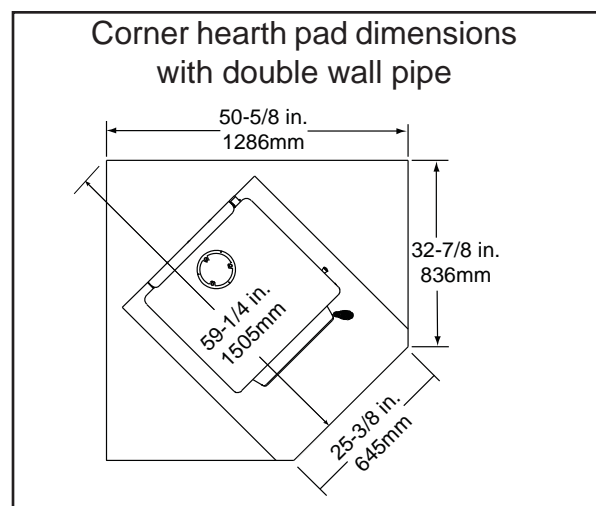

Figure 11.4
***EXCEPTION:** Non-combustible floor protections must extend beneath the flue pipe when installed with horizontal venting and extend 2 inches (51mm) beyond each side. **See Figure 11.4.**